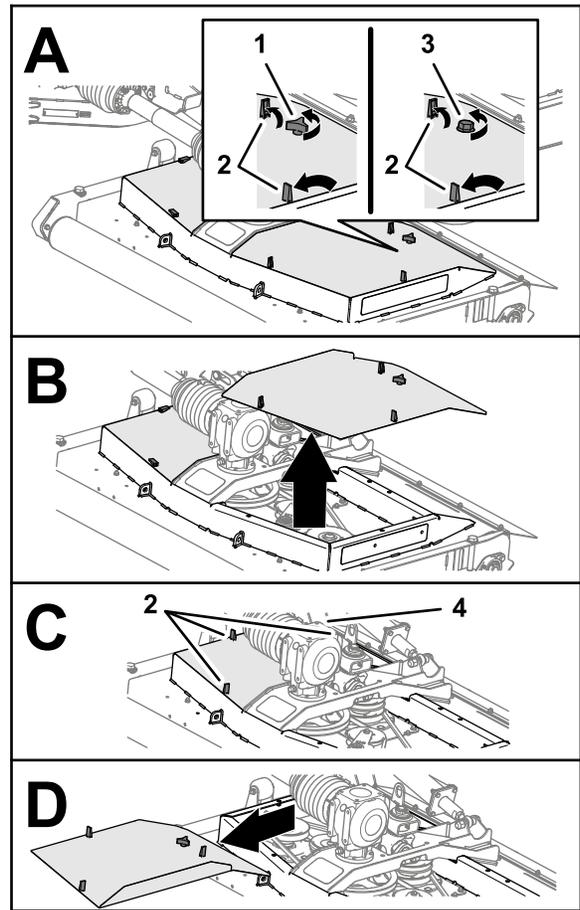

Figure 46
1. Release the 3 latches that secure the cover of the mower deck (Figure 46).
2. Loosen the knob or bolt (CE mower deck) that secures the cover of the mower deck to the mower deck (Figure 46).
4. Repeat steps 1 and 2 for the other cover (Figure 46).